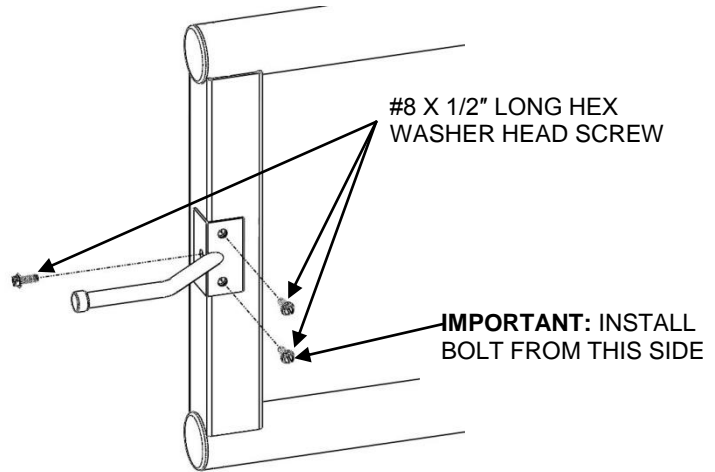

FIG. 6.31
- 6.10.5. Use 1/4" nut driver to secure catch with screws (FIG. 6.31).